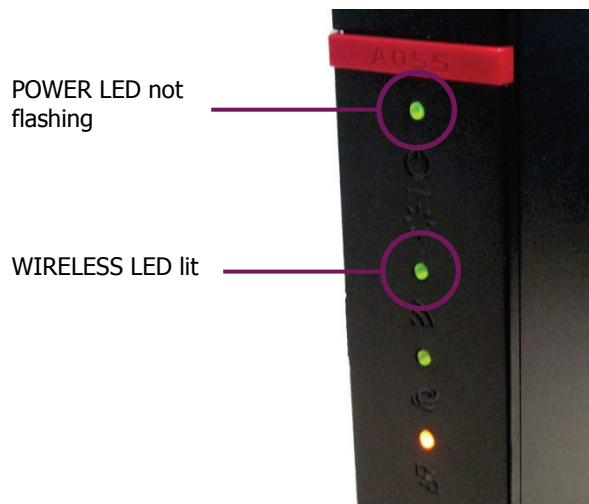

Figure 20 Wireless router LEDs indicate ready for use
8. Wait for the POWER LED on the router to stop flashing and ensure that the WIRELESS LED is lit (Figure 20).